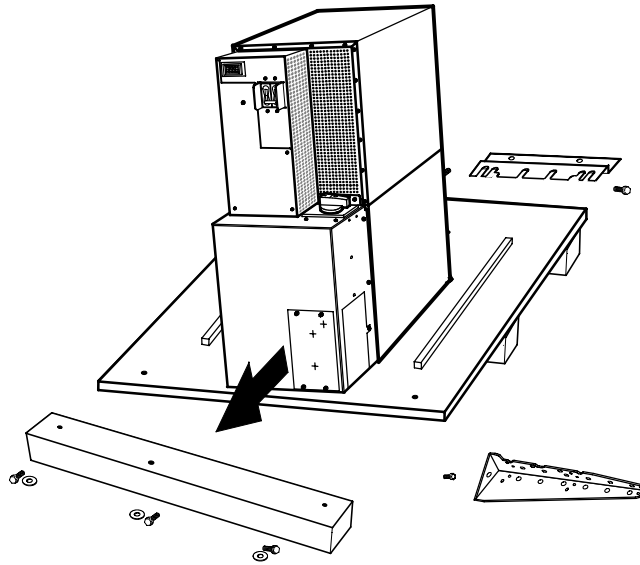

Figure 9. Unloading the Cabinet
9. Slowly roll the cabinet toward the rear of the pallet. Once the pallet tilts, continue rolling the cabinet down the pallet until the cabinet touches the floor (see Figure 9).